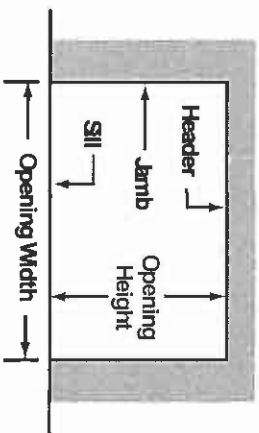

Fig 3
- Does the wall opening match the Opening Width and Height shown on the "Door Installation Data" sheet and Figure 3?